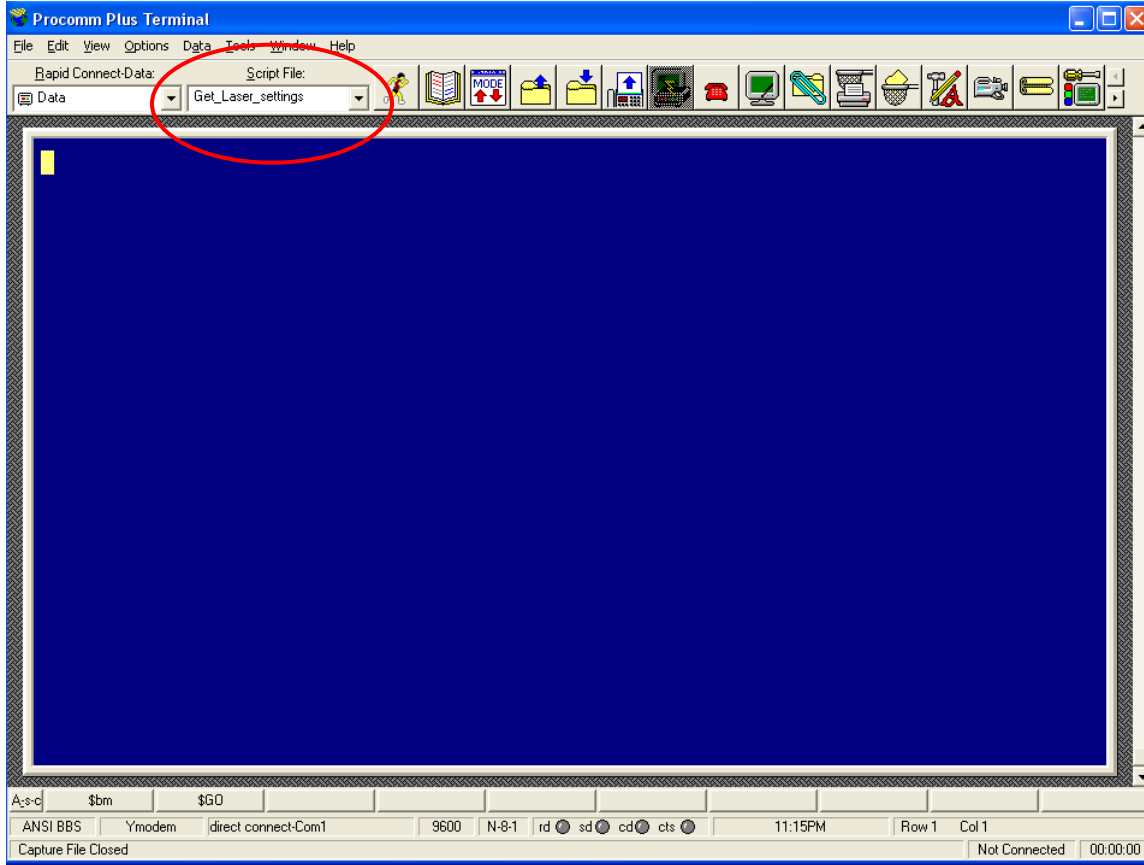

Figure 15
3. Using the mouse, select the **Get_Laser_settings** script from the **Script File** drop-down menu as shown in figure 15: